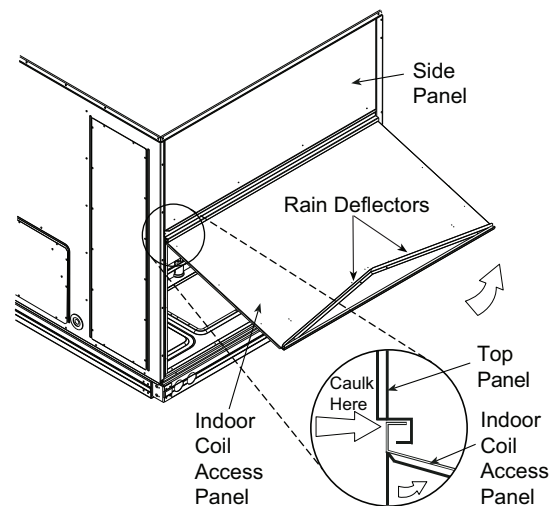

Fig. 11 — Indoor Coil Access Panel Relocation
1. The indoor coil access panel will be used as the top of the hood. If the panel is still attached to the unit, remove the screws along the sides and bottom of the panels. See Fig. 11.